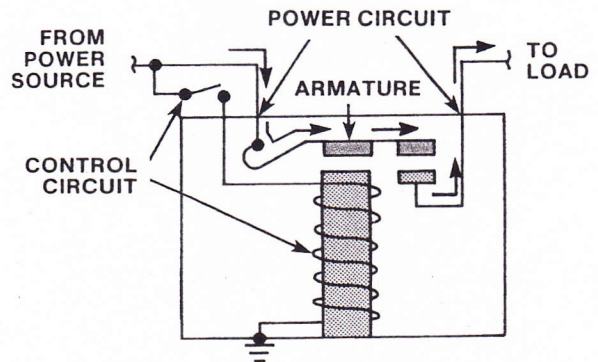

FIGURE 14-45 Typical electrical relay design.
**Relays** A relay is an electric switch that allows a small amount of current to control a high current circuit (Figure 14-45). When the control circuit switch is open, no current flows to the coil of the relay, so the windings are de-energized. When the switch is closed, the coil is energized, turning the soft iron core into an electromagnet and drawing the armature down. This closes the power circuit contacts, connecting power to the load circuit. When the control switch is opened, current stops flowing in the coil and the electromagnet disappears. This releases the armature, which breaks the power circuit contacts.